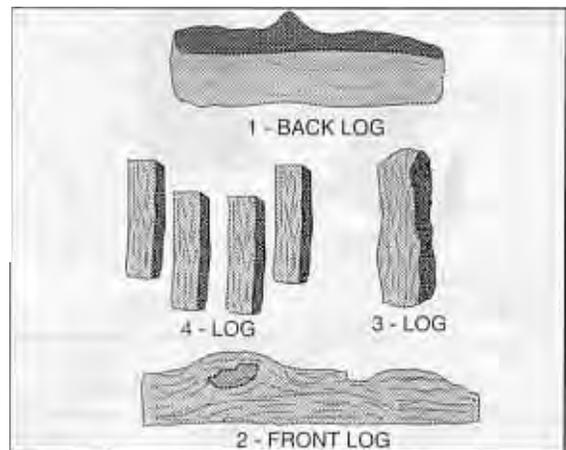
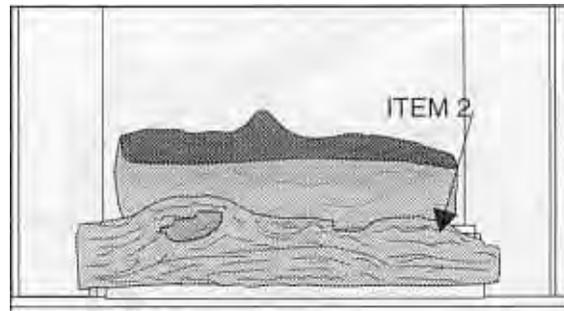

Figure 48
Figure 52
3. See **Figure 52**. Place the Front Log (**Item 2**) directly on the "L" Bracket Support. See **Figures 48 & 49**.